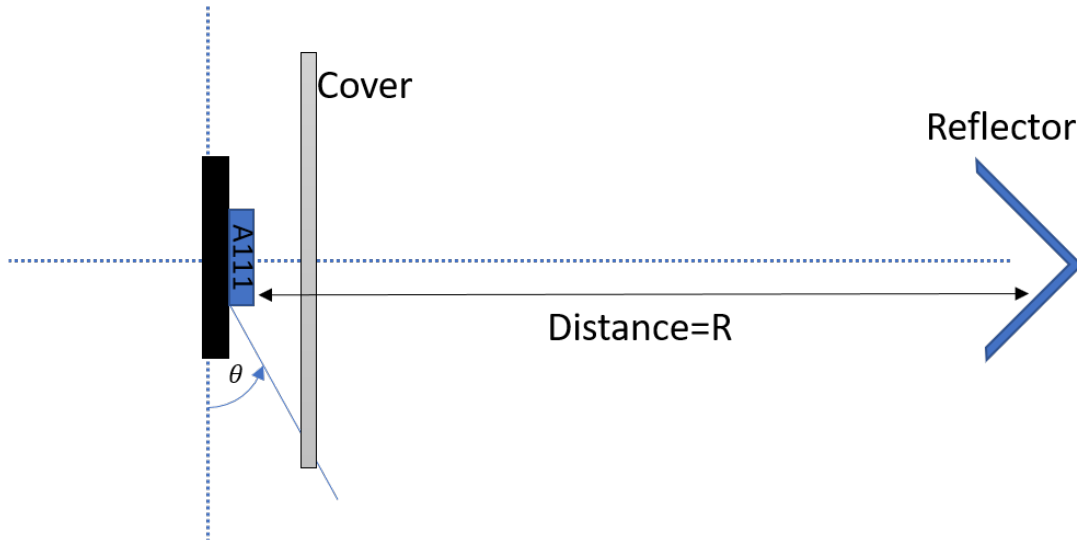

Figure 3: Setup configuration for radar loop pattern measurements.
In addition to the above it is also important for optimized integration to consider the electromagnetic (EM) environment, both in terms of what is placed on top of the sensor as well as to the side of the sensor. To evaluate the EM integration a Radar loop measurement can be conducted by placing an object in front of the sensor and rotating the sensor around its own axis, as illustrated in Figure 3. The received energy from e.g. the Envelope Service can then be used to plot the amplitude versus rotation angle ( $\theta$ ).